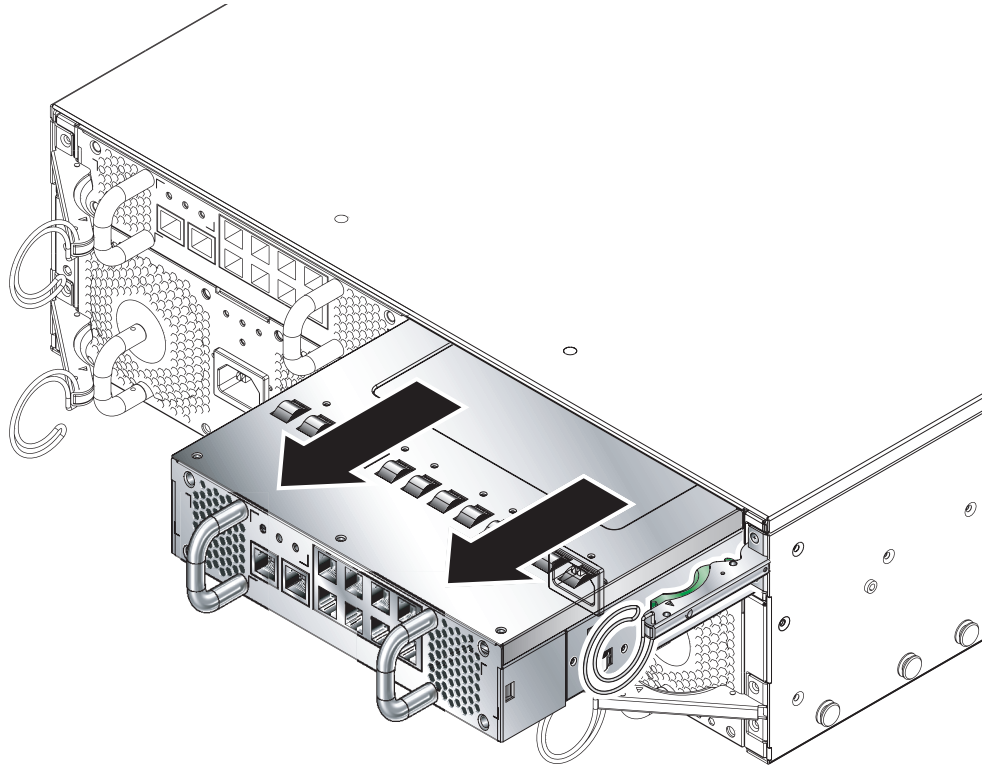

FIGURE 12-10 Removing the SSC from the System Chassis
5. Remove the SSC from the system chassis by pulling on the vertical handles attached to the back of the SSC (FIGURE 12-10).